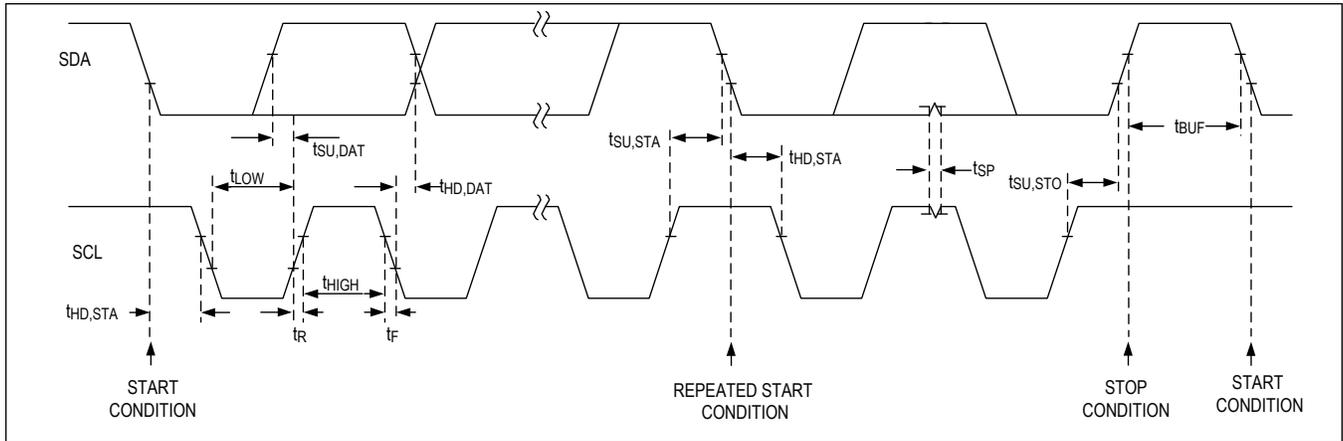

Figure 32. I²C Interface Timing Diagram
The device features an I²C-compatible, 2-wire serial interface consisting of a serial data line (SDA) and a serial clock line (SCL). SDA and SCL facilitate communication between the device and the master at clock rates up to 1MHz. Figure 32 shows the 2-wire interface timing diagram. The master generates SCL and initiates data transfer on the bus. The master device writes data to the device by transmitting the proper slave address followed by two register address bytes (most significant byte first) and then the data word. Each transmit sequence is framed by a START (S) or REPEATED START (Sr) condition and a STOP (P) condition. Each word transmitted to the device is 8-bits long and is followed by an acknowledge clock pulse. A master reading data from the device transmits the proper slave address followed by a series of nine SCL pulses. The device transmits data on SDA in sync with the master-generated SCL pulses. The master acknowledges receipt of each byte of data. Each read sequence is framed by a START (S) or REPEATED START (Sr) condition, a not acknowledge, and a STOP (P) condition. SDA operates as both an input and an open-drain output. A pullup resistor, typically greater than 500Ω, is required on SDA. SCL operates only as an input. A pullup resistor, typically greater than 500Ω, is required on SCL if there are multiple masters on the bus, or if the single master has an open-drain SCL output. Series resistors in line with SDA and SCL are optional. Series resistors protect the digital inputs of the device from high voltage spikes on the bus lines, and minimize crosstalk and undershoot of the bus signals.